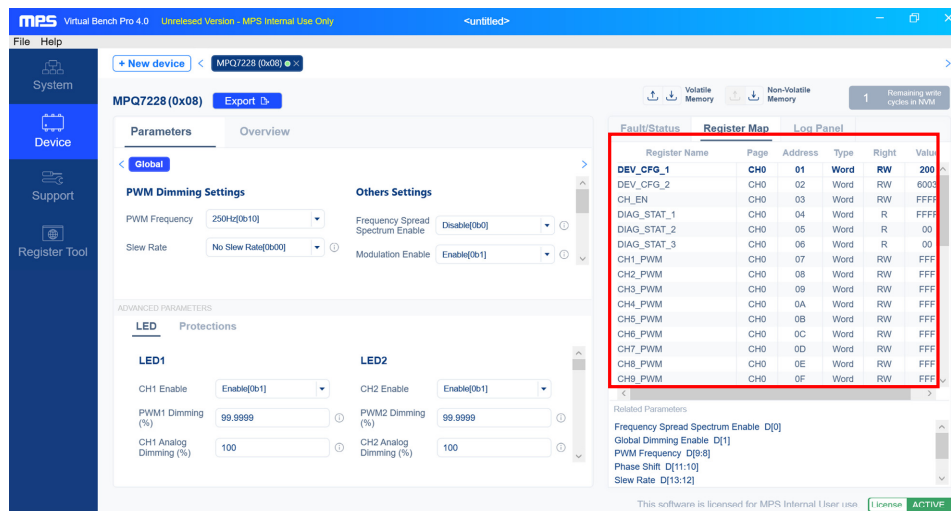

Figure 8: Register Map in Virtual Bench
14. To use the enable (EN) function, apply a digital input to the EN2 pin. Set R16 to 100kΩ and remove R2. Then drive EN2 above 2.2V to turn the regulator on; drive EN2 below 0.8V to turn it off.
15. I_{LED} is set by the external resistor, R10 (see Figure 8 on page 8). I_{LED} can be calculated with Equation (1):
- The register values — including the pulse-width modulation (PWM) dimming setting, protections, and LED current setting — can be adjusted via the GUI (see Figure 8). After writing to the register, double-check the register map to determine whether the register value matches the required value.